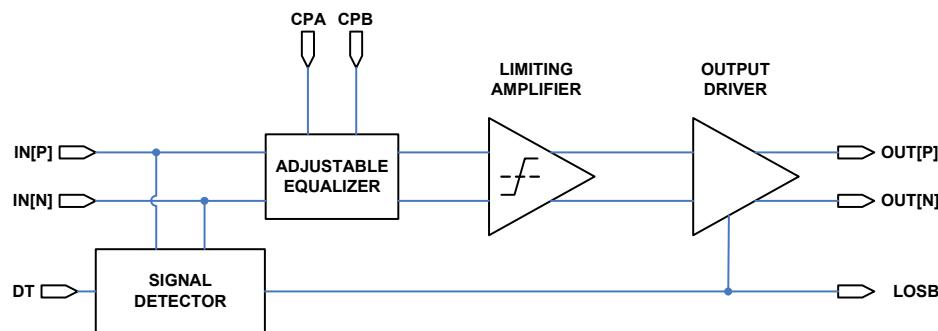

FIGURE 4. FUNCTIONAL DIAGRAM OF A SINGLE CHANNEL WITHIN THE ISL36411
The ISL36411 is an advanced quad lane-extender for high-speed interconnects. A functional diagram of one of the four channels in the ISL36411 is shown in Figure 4. In addition to a robust equalization filter to compensate for channel loss and restore signal fidelity, the ISL36411 contains unique integrated features to preserve special signaling protocols typically broken by other equalizers. The signal detect function is used to mute the channel output when the equalized signal falls below the level determined by the Detection Threshold (DT) pin voltage. This function is intended to preserve periods of line silence ("quiescent state" in InfiniBand contexts). Furthermore, the output of the signal detect/DT comparator is used as a Loss Of Signal (LOS) indicator to indicate the absence of a received signal.
As illustrated in Figure 4, the core of each high-speed signal path in the ISL36411 is a sophisticated equalizer followed by a limiting amplifier. The equalizer compensates for skin loss, dielectric loss and impedance discontinuities in the transmission channel. Each equalizer is followed by a limiting amplification stage that provides a clean output signal with full amplitude swing and fast rise-fall times for reliable signal decoding in a subsequent receiver.